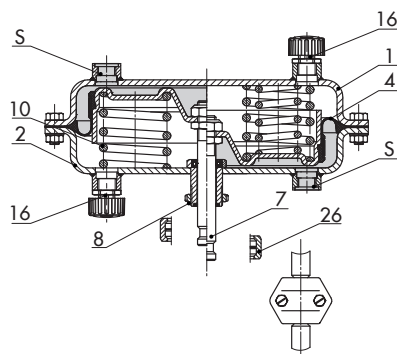

Fig. 7: Type 3271 · Right: with additional springs
**Legend for Fig. 7 to Fig. 14**